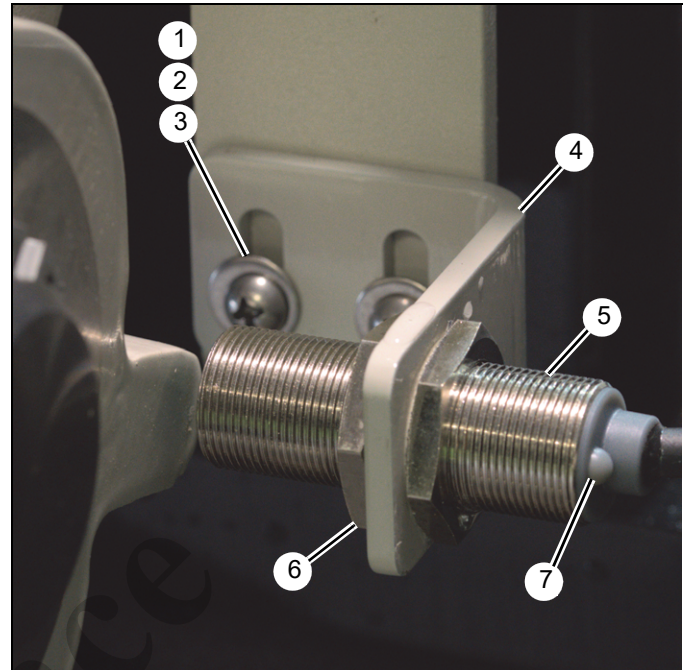

FIGURE 3-3
3. Remove capscrews (1, Figure 3-3), lockwashers (2), and nuts (3) to remove plate (4) and proximity switch (5) from chassis.
4. Loosen jam nuts (6) and remove proximity switch (5) from plate (4).